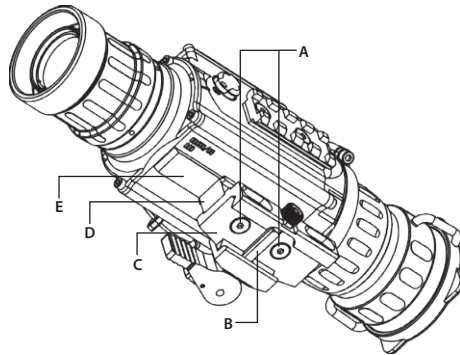

FIGURE 3-2. THE APOLLO FULLY ASSEMBLED WITH THE MOUNT
The Apollo comes fully assembled with a Picatinny/Weaver mount (Figure 3-2).
4. Install the Apollo on the Picatinny/ Weaver rail in front of the day scope so that the stop (B, see Figure 3-2) slides into one of the rail's transverse slots. The light suppressor should cover the day scope's objective lens.